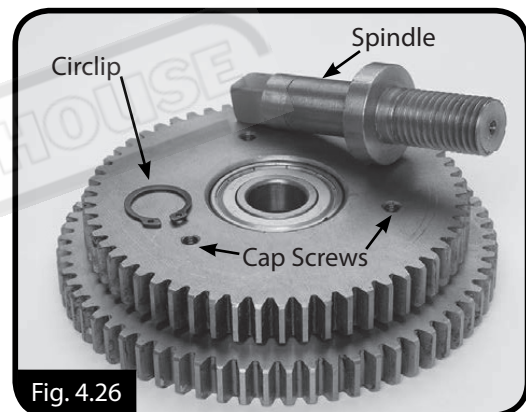

Fig. 4.26
4. Using a 14mm wrench, remove the center spindle and gear assembly (Fig. 4.26).
5. Using retaining ring pliers, remove the circlip from the spindle (Fig. 4.26).